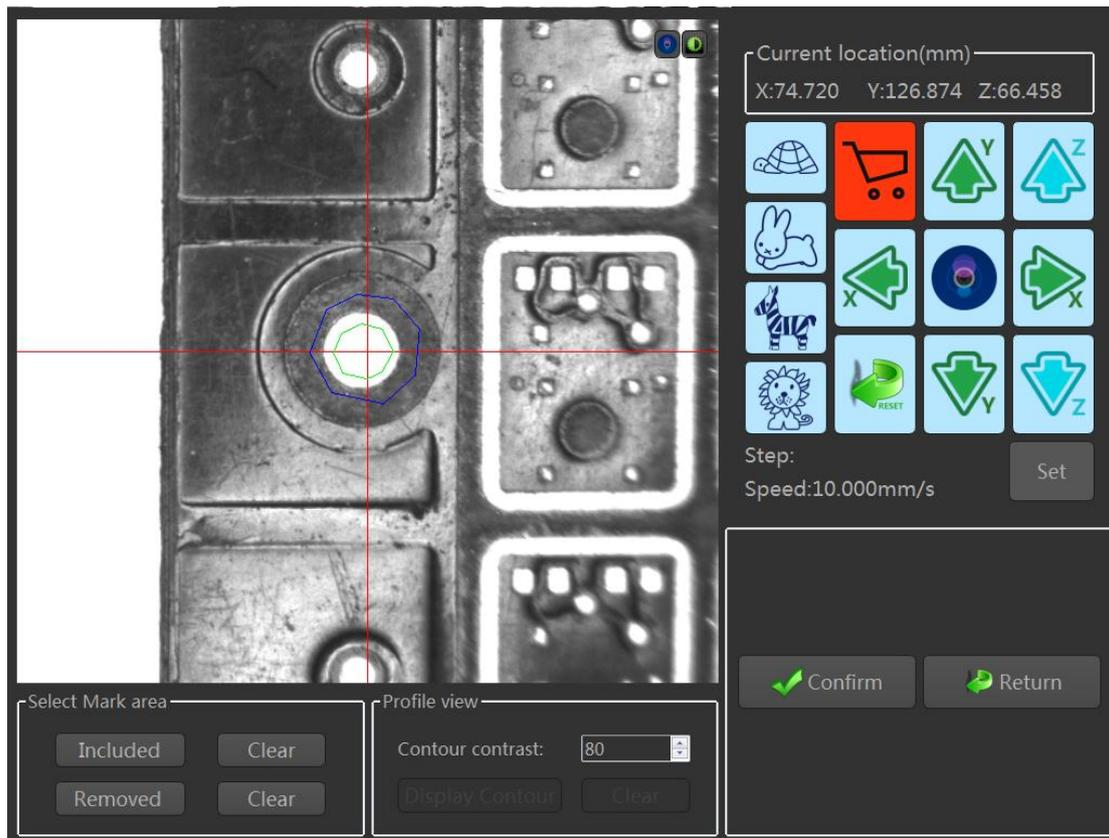

Fig. 5-3-6 Marker drawing
- (1) Define the template, click the "definition template" button, pop-up template drawing interface, as shown in Figure 5-3-6; "containment area" is a visual matching area, as shown in the blue line, "deduction area" Matching part of the matching area does not participate in the matching, as shown by the green line; "contour" is the boundary resolution value, the smaller the contrast is; the click "confirm" button to complete the drawing